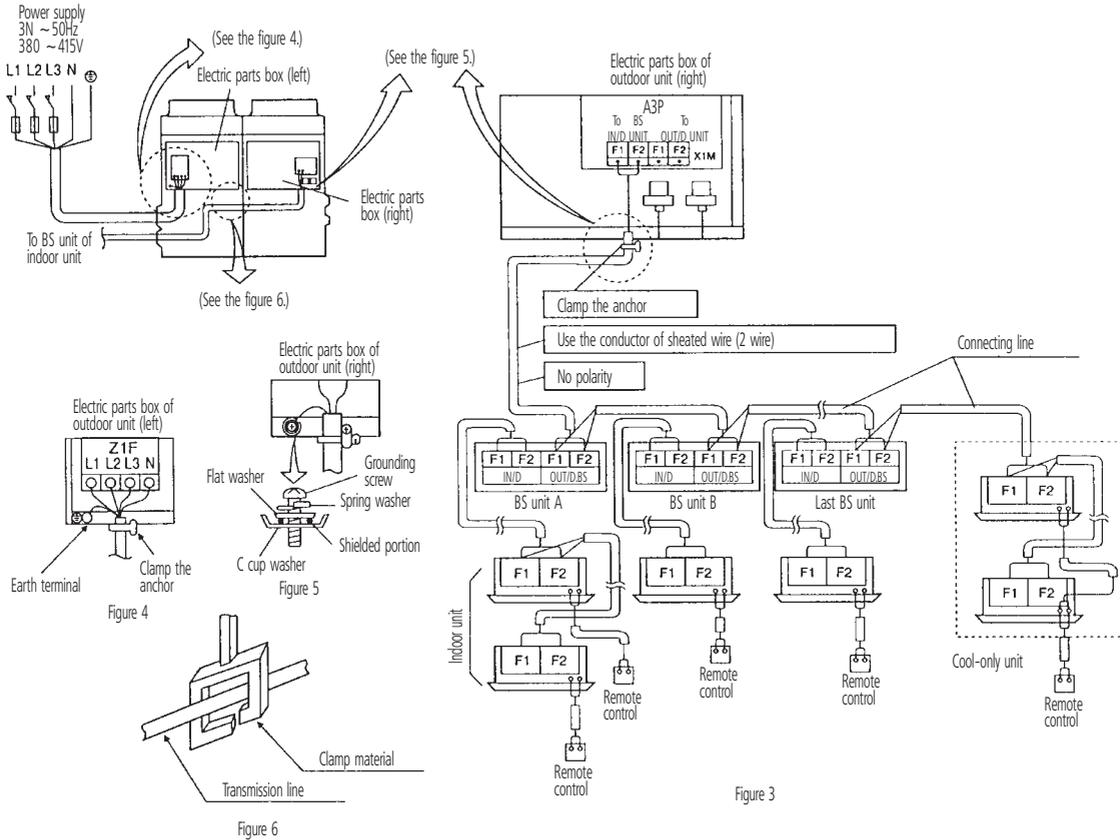

Figure 3
- Connect the output terminal F1 and F2 of the terminal block (X1M) on the PC board of outdoor unit with the input terminal F1 and F2 of the first BS unit A. (See the figure 3.)